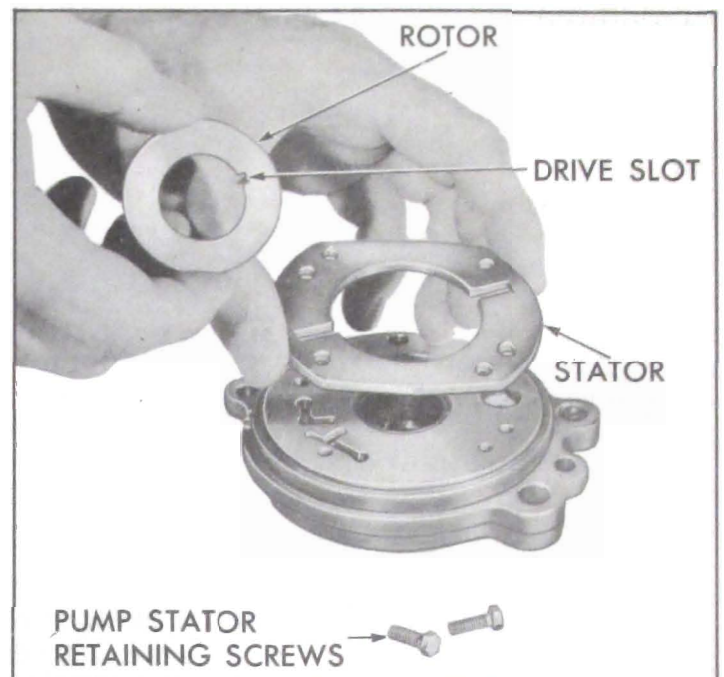

Figure 7-65—Removing Pump Rotor and Stator
- (e) Remove two retaining screws from pump stator, and remove pump rotor and stator. See figure 7-65.
- (d) Install two stator retaining screws finger tight in locations shown in figure 7-65.